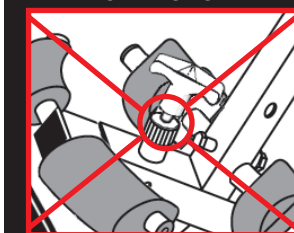

Fig. 10
- If the locking pin does not automatically engage in a hole (Figure 10), push the front ankle clamps inward until the pin engages fully in the next tightest hole setting. Verify that no part of the footwear or garments can touch or interfere with the locking pin in any way during inversion.